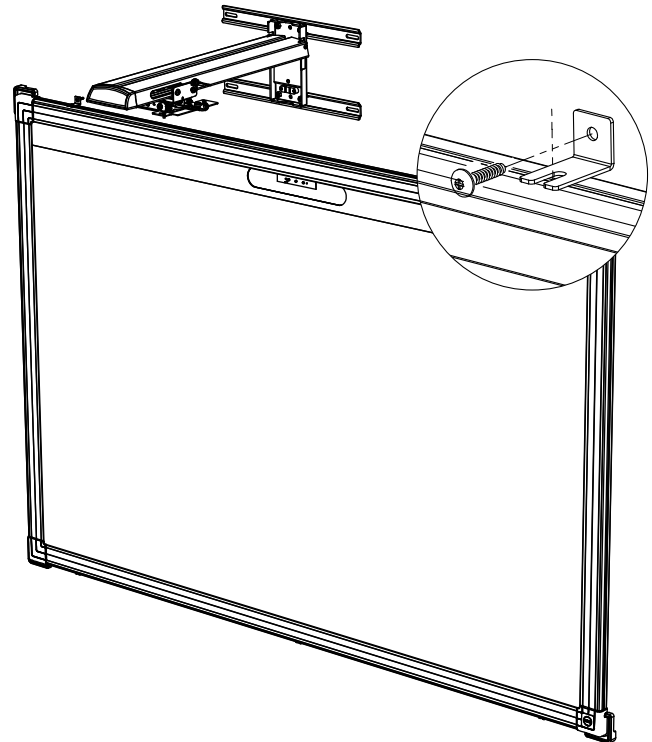

Figure 8
15. Install the (2) top brackets (Figure 8) using:
16. Secure top of screen to wall using (2) of the supplied #8 x 1/2" screws through top brackets into the top channel of the screen (Figure 8).